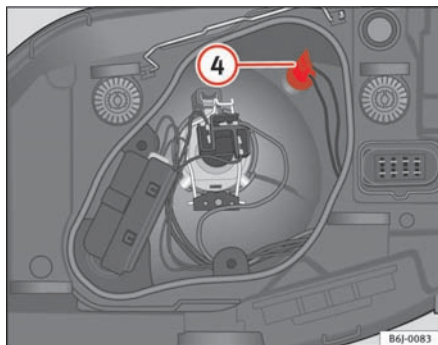

Fig. 140 Side lights
- Extract the lamp holder ④ ⇒ fig. 140 outwards.